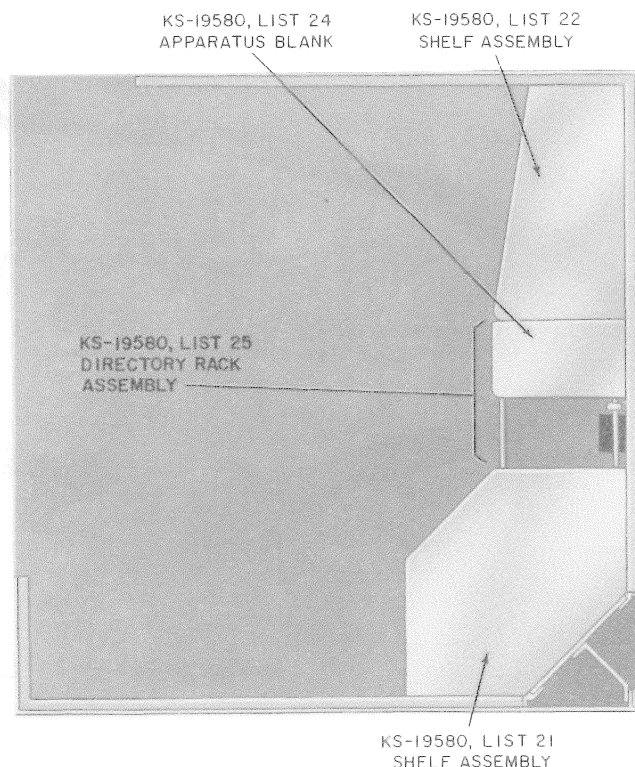

Fig. 9—Rear Wall Shelf Arrangement
2.18 Refer to Fig. 9 for optional shelf arrangements.